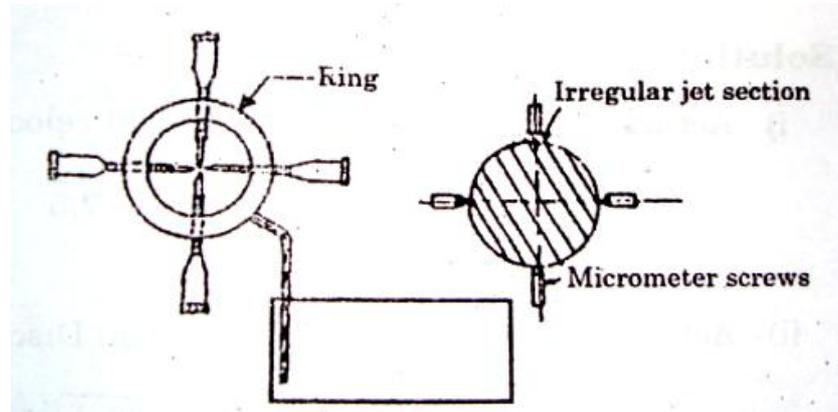

Fig.2.21
- ❖ This gauge consists of a ring with four micrometer screw fitted radially as shown in fig.2.21.